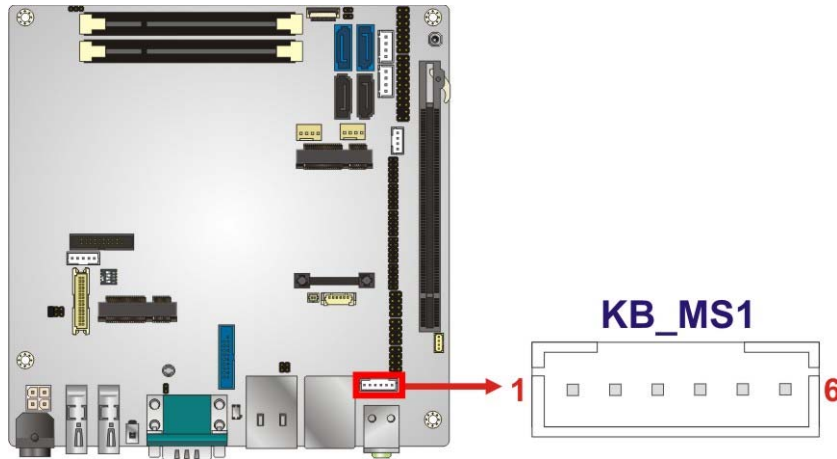

Figure 3-13: Keyboard/Mouse Connector Location
- CN Location:** See **Figure 3-13**